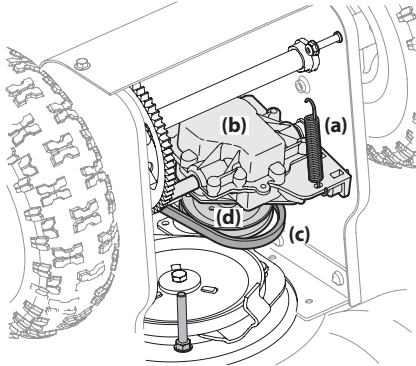

Figure 4-22
2. Remove the spring (a) that connects the transmission to a bolt on the engine frame. See Figure 4-22.
6. Tilt the transmission (b) forward and position the drive belt (c) onto the transmission pulley (d). See Figure 4-22.
7. Reconnect the spring (a) to the bolt on the engine frame and secure the transmission. Reinstall the flange lock nut. See Figure 4-22.